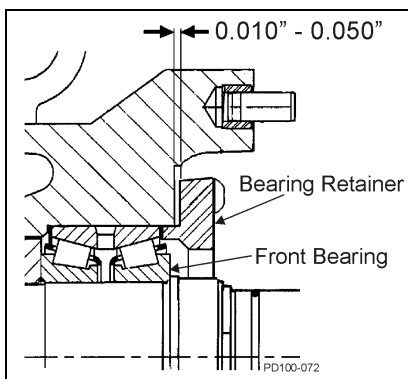

Figure 54 - Bearing Retainer Clearance
- Bearing retainer must rest firmly against bearing. Leave a 0.010 to 0.050 in (.25 to 1.25 mm) clearance between back of bearing retainer and front of gear case (Figure 54). If this clearance is not met, place shims between bearing and retainer.